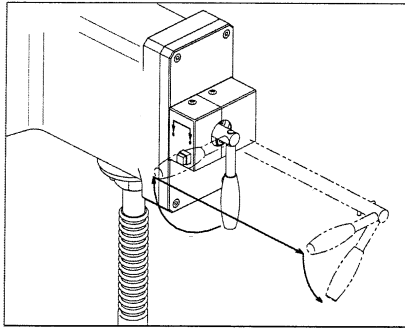

Figure I-2. Operation of the Sample Exchange Door
2. Turn the **Isolation Valve Control handle** 90° clockwise or outward toward you (See Fig. I-2).
2. Turn the **Isolation Valve Control handle** 90° clockwise or outward (see Figure I-2).